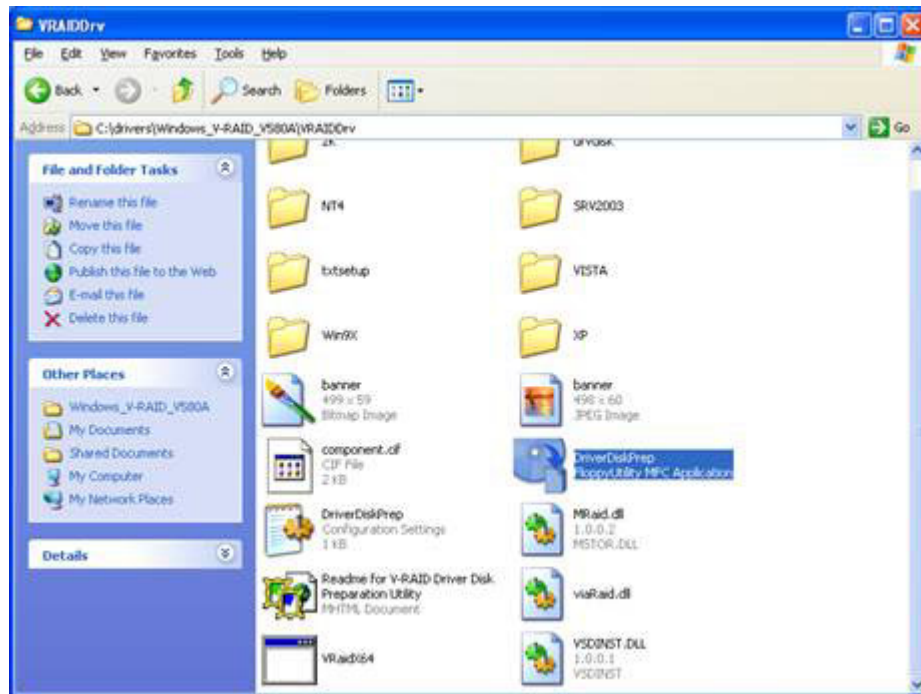

Figure 1. VraidDrv Folder
3. Browse to the VraidDrv folder within the extracted zip file (see Figure 1).